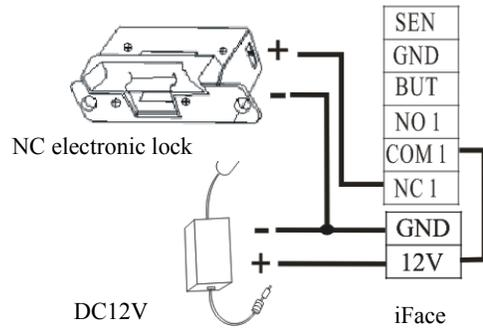
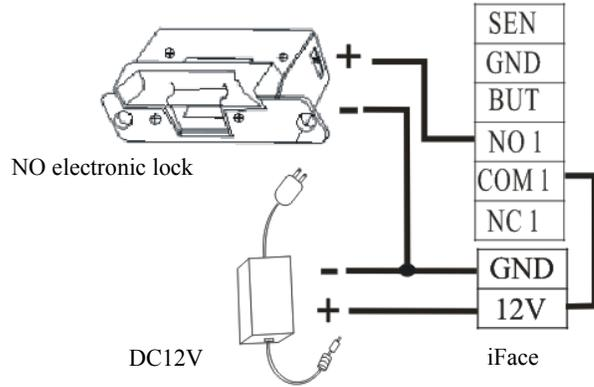

Figure 1 NC electronic lock (sharing power supply with the iFace)
Figure 2 NO electronic lock (sharing power supply with the iFace)
1. The iFace shares power supply with the electronic lock, as shown in Figure 1 and Figure 2: